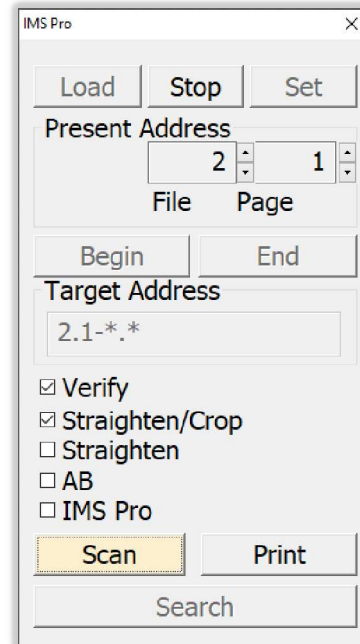

Figure 99
- l. The *Verify* check box can be used to ensure that an image(s) exist(s) and look correct before scanning. The ScanPro will move to the selected image, and the *Scan* button will turn yellow. Click the *Scan* button to move to the next image. *Figure 99*